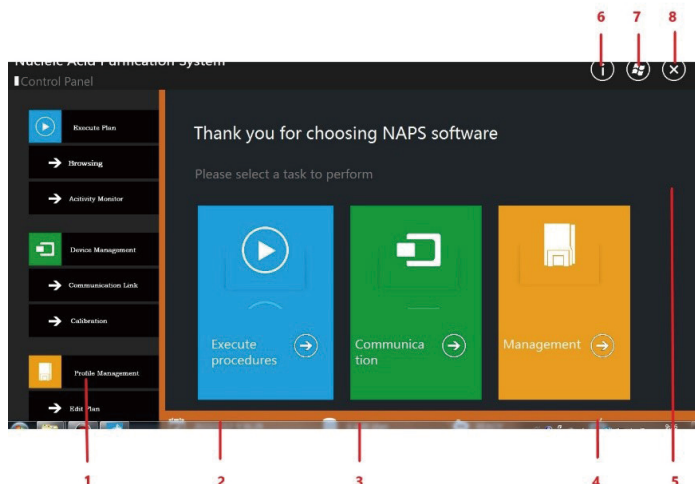

Figure 5. Main Interface of User Operation
After the instrument is powered on and completes the necessary self-test, it enters the main interface for user operation. As shown in Figure 5. The instrument operation interface is mainly composed of the following parts.
- (1) Function menu on the left, see ① in Figure 5.
- (2) Status bar at the bottom, see ②③④ in Figure 5. The status bar displays the current date and time of the system (②), the number of existing execution plans in the system (③), and the start button of the touch suspended keyboard (④).
- (3) Central operator interface area, see ⑤ in Figure 5. The content in this area changes as the user selects different menu items and is the main human-machine interaction area of the instrument.
- (4) Title bar at the top, see ⑥⑦⑧ in Figure 5. ⑥ is used to pop up the "About Dialog" displaying software version information, ⑦ is used to minimize the main interface window, and ⑧ is used to close the main interface window.